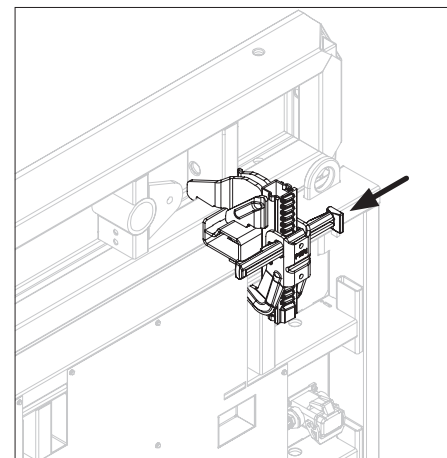

Fig. A3.14
4. Hammer in wedge tightly. (Fig. A3.14)